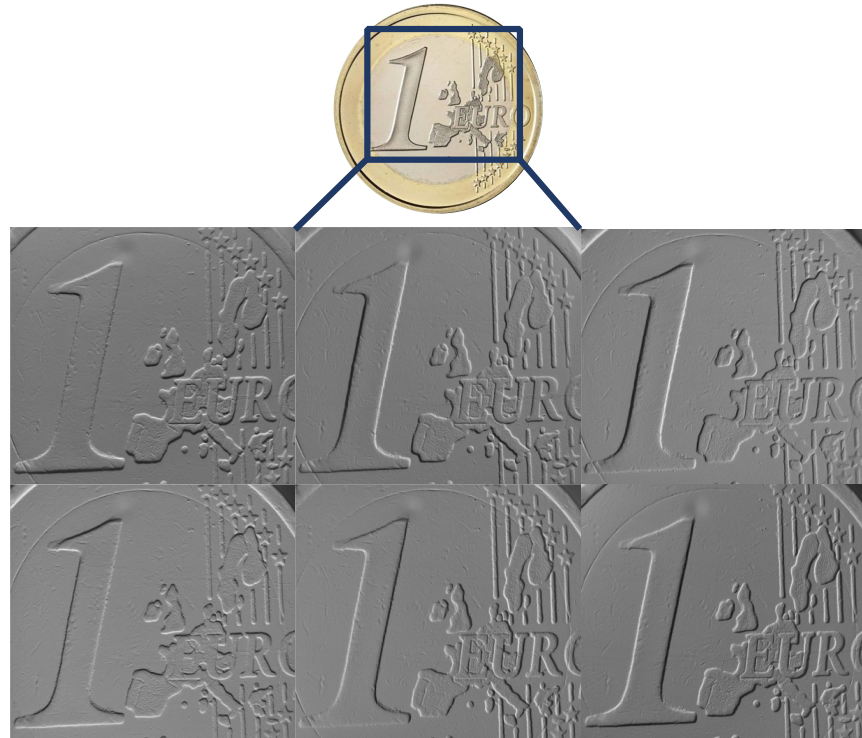
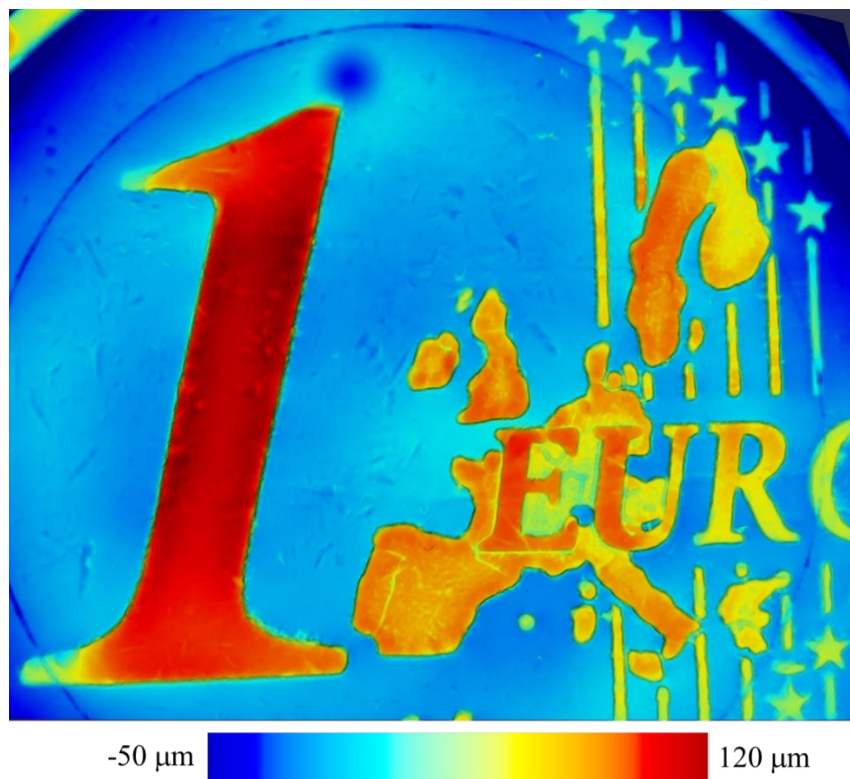

FIGURE 2: CAPTURE OF A SPECIMEN WITH 6 DIFFERENT ILLUMINATION ANGLES
FIGURE 3: 3D RENDERING OF THE SPECIMEN
The GelSight Technology is based on the optical properties of a membrane on an elastomeric sensor which allows an imaging system to capture snapshots of the surface in contact with the membrane using controlled illumination. The GelSight Mobile System captures six (6) photos of the same object with different illumination angles in a very short time (see capture of the specimen in Figure 2). Next, a custom-developed 3D reconstruction algorithm calculates the slope and x-y position of every geometrical detail on the surface (see Figure 3 for the 3D rendering of the surface). The color map represents the altitude for each pixel of the domain. Unlike stereo imaging systems using multiple cameras, the GelSight Mobile System uses *photometric stereo*, a 3D measurement technique based on a single camera and multiple lights. This configuration allows for a simple handheld device that measures 3D surface detail within seconds.